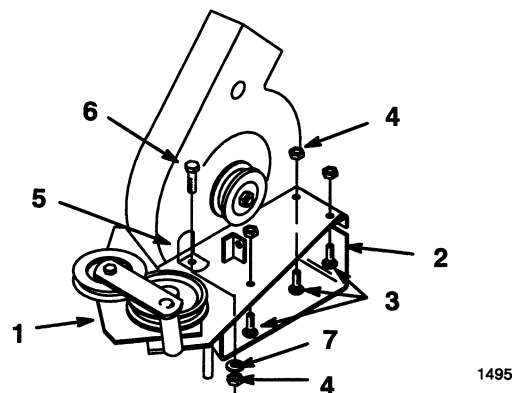

Figure 5
5. Assemble blower mounting plate to blower with (3) 5/16 x 3/4" carriage bolts and 5/16" flange nuts (Fig. 5).
6. In the front inside hole of the blower insert a 5/16 x 1" carriage bolt item 6 (Fig. 5).
7. Inside the blower housing slide the L-bracket over the bolt. Hold the L-bracket tight against the blower housing wall and secure with 5/16" washer and 5/16" flange nut (Fig. 5).